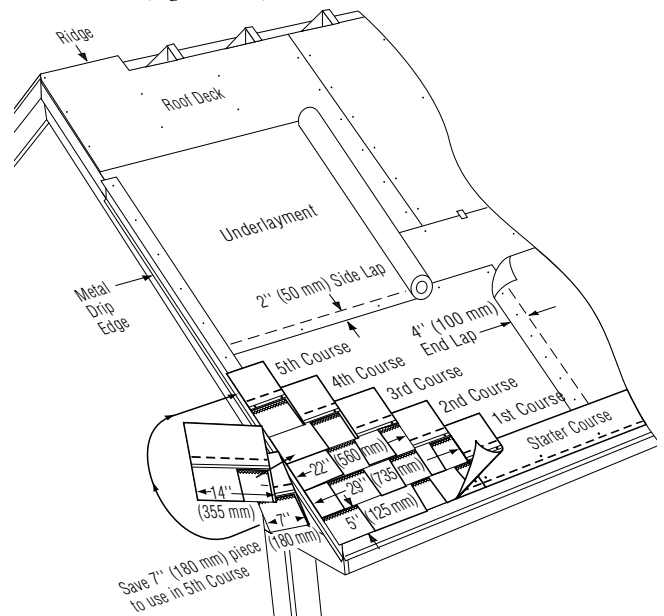

Figure 15-7: Applying the first 5 courses on a standard slope.
1ST COURSE: Apply a full shingle at the lower left corner of the roof. Make the lower edge and left edge lie flush with the edges of the starter course (Figure 15-7).
1. Cut 7" off the left end of the first shingle and save this piece for later use. Apply the 29" long piece over and above the first-course shingle. Leave the bottom 5" tab portion of the first-course shingle exposed (*Figure 15-7*).